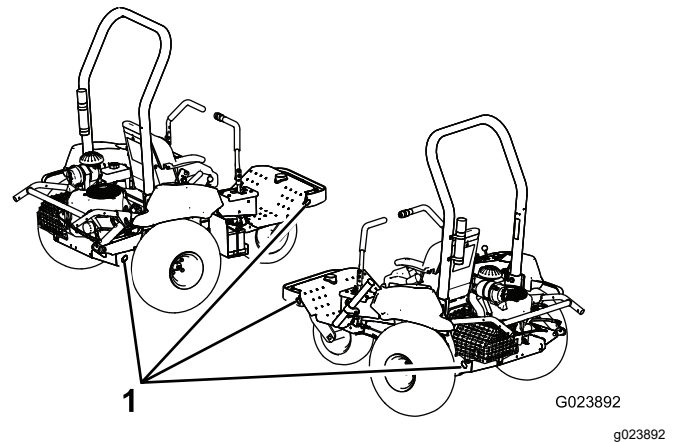

Figure 25
5. Use the tie-down points on the machine (Figure 25) to securely fasten the machine to the transport vehicle with straps, chains, cable, or ropes.